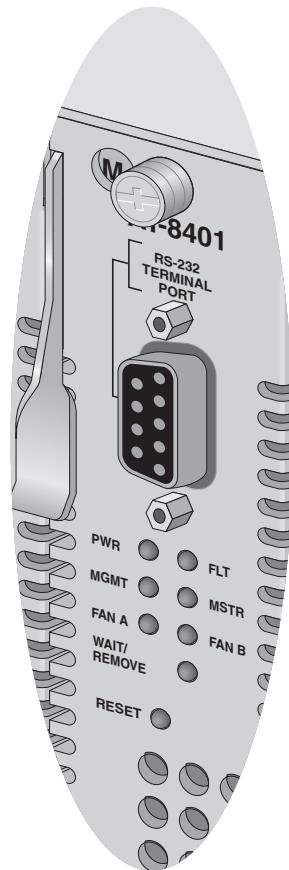

Figure 24 AT-8401 Management Card LEDs
8. Make sure the PWR, FAN A, and FAN B LEDs on the front of the management card are steady green. See Figure 24.